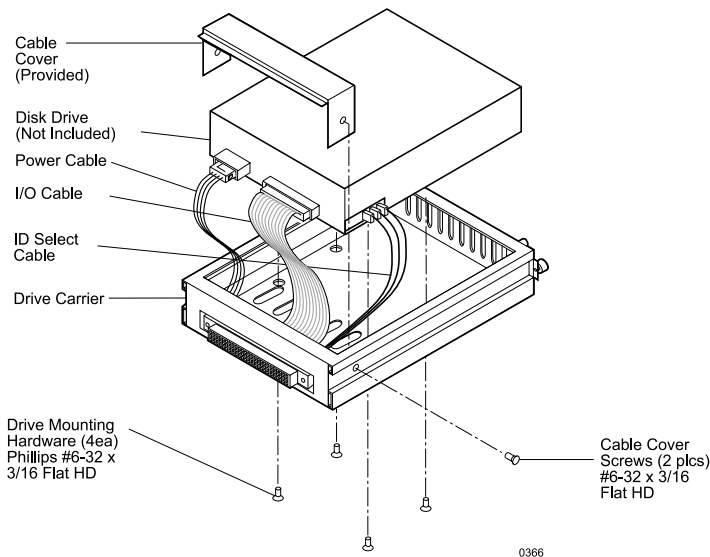

Figure 6: Drive Installation Assembly
1. Attach the I/O cable from the rear distribution board of the DE200i-S carrier to the disk drive (Figure 6).
2. Attach the 4-pin DC power cable from the rear distribution board to the disk drive (Figure 6).
4. Carefully insert the drive into the carrier at an angle, cable-end first. **Make sure none of the cables are pinched.** Lower the front of the drive carefully into place. Fasten the drive into the carrier with four (4) of the eight (8) screws provided as shown in Figure 6.
5. Attach the provided cable cover with two (2) #6-32 Phillips Flat Hd. screws as shown in Figure 6.